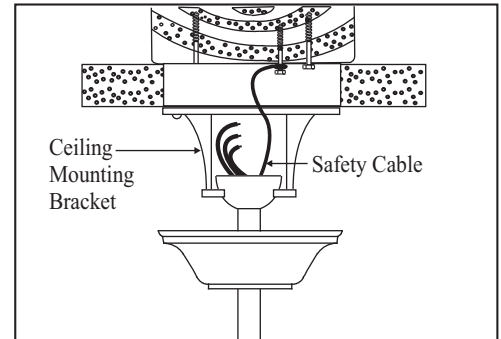

Figure 8
5. Secure the safety cable to the building structure as shown in Figure 8.